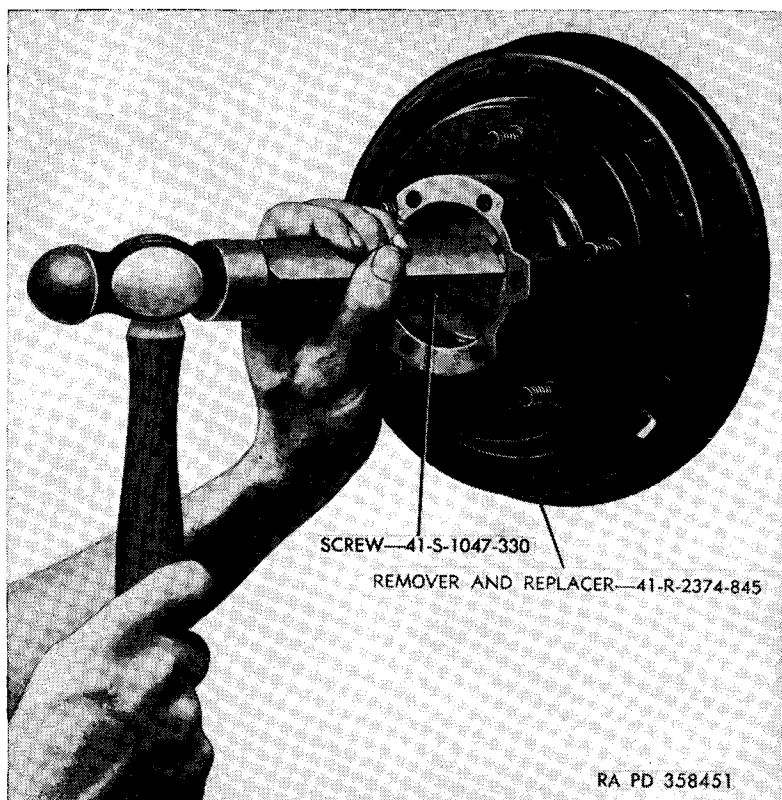

Figure 86. Installing front wheel outer bearing cup with replacer 41-R-2374-845
d. Install Wheel Hub and Brake Drum (fig. 54). Place the front wheel bearing cup (N) and front wheel bearing cone (P) together; then drive into rear of wheel hub (M) with remover and replacer 41-R-2374-845 and screw 41-S-1047-330. Using same replacer and screw, drive new front axle hub oil seal (Q) into wheel hub (M) on top of the bearing assembly. Turn wheel hub and brake drum assembly over and drive front wheel bearing cup (K) into wheel hub with replacer 41-R-2374-845 and screw 41-S-1047-330 (fig. 86).